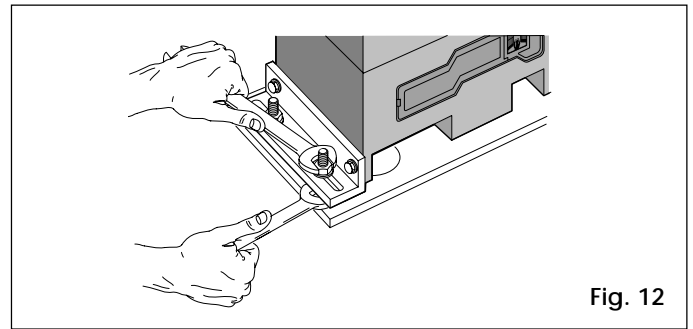

Fig. 12
- 5) Secure the gear motor onto the base plate by tightening the nuts as shown in Fig. 12.